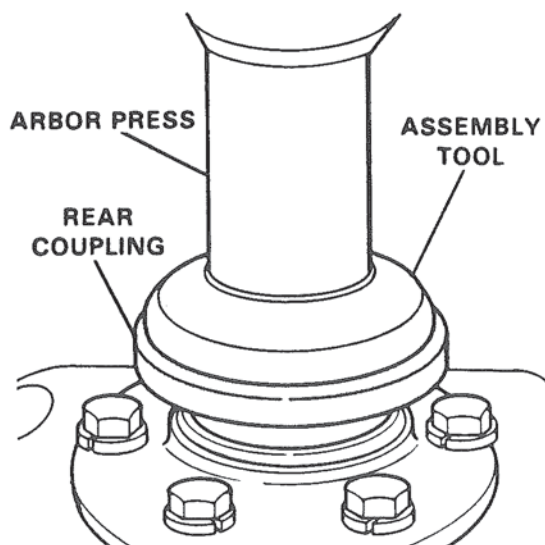

Figure 46. Installing Rear Coupling.
11. After lubricating the splined portion of coupling, assemble the splined coupling onto the externally splined portion of the output shaft. When the coupling has been aligned squarely on the output shaft and hand assembly has proceeded as far as possible, place a suitable tool on the coupling, Figure 46, and gently press the coupling with arbor press until contact with the bearing inner race is made.